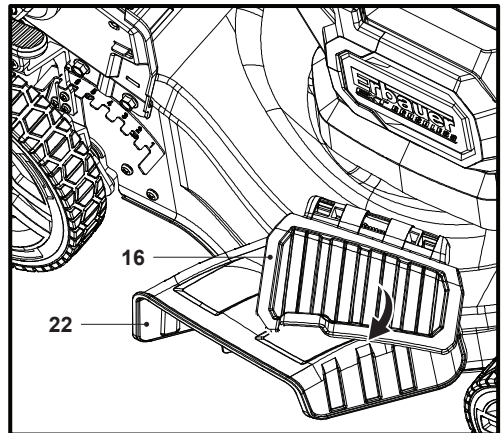

Fig. 17
4. Gently release the side deflector guard (16) (Fig. 17) and the side discharge attachment (22) is ready for use.